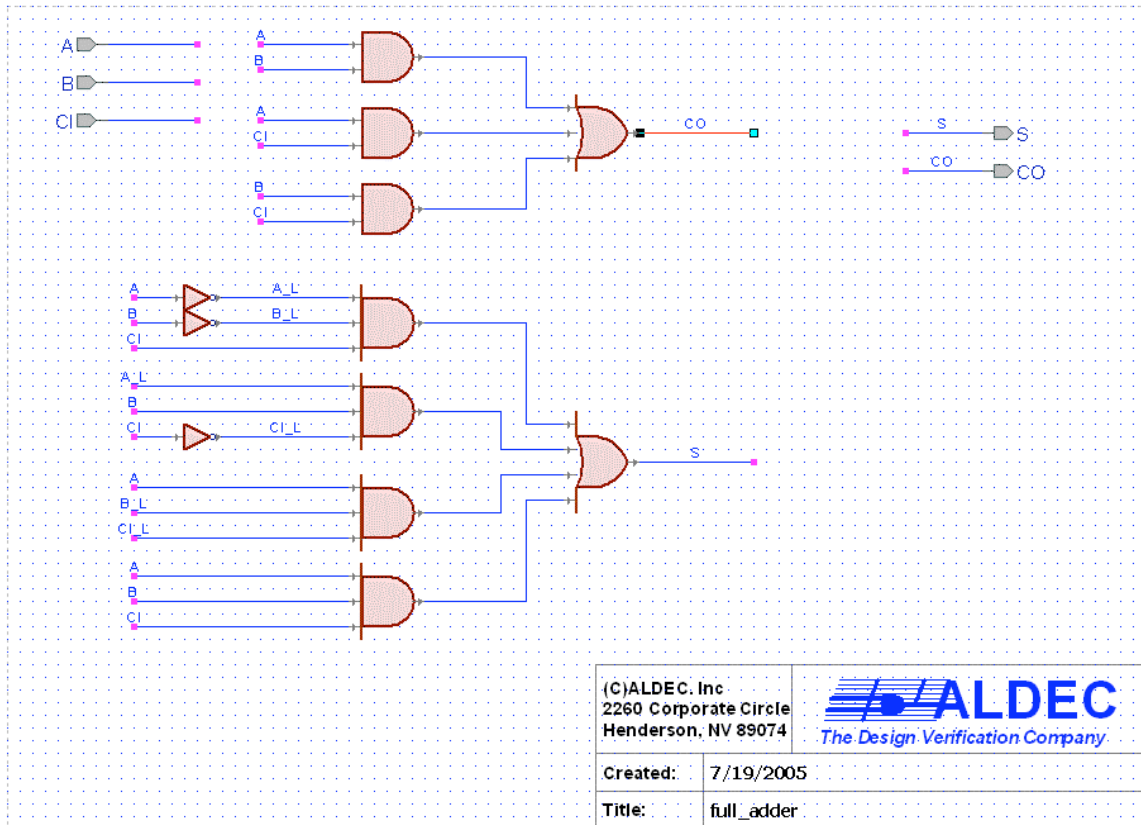
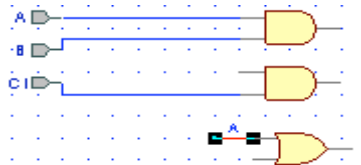

Figure 14
Figure 24
Figure 14 is the final version of the schematic you will be drawing. Your final design should look similar*.
Connections to terminals can be made “by wire” or “by name”. By wire connections connect terminals by a wire. If a wire and a terminal have the same name, they are connected by name. Lots of wires can be confusing and named connections are used to make easy to read schematics. Figure 24 is an example of both methods. Also, the final schematic version of the full adder presented earlier (Figure 14) shows how to create an easy to read schematic using connections by name.
**** Complete your schematic so it looks like Figure 14 ****